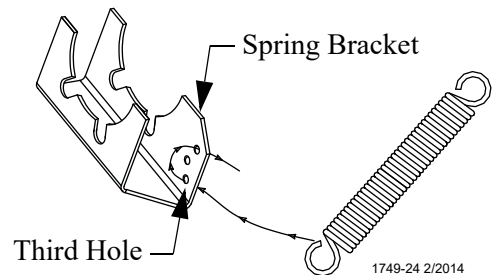

Figure 55. Spring Bracket Assembly
4. Assemble the Spring to the Spring Bracket by sliding the loop of the spring up through the third hole in the bracket, see **figure 55**.